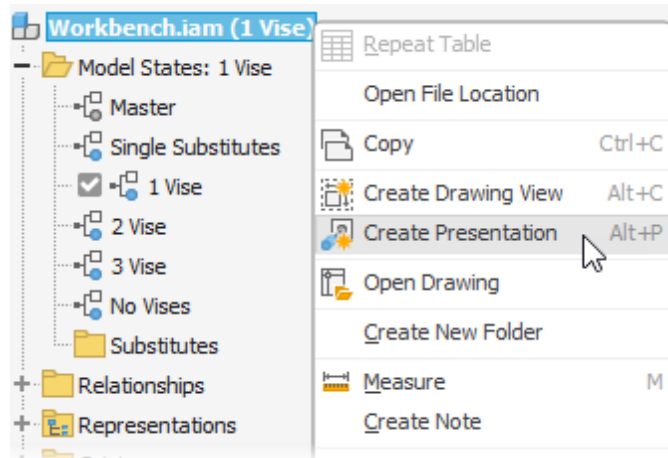

Figure 10
- With the model state active in the assembly, right-click on the assembly name in the Model browser and select **Create Presentation**, as shown in Figure 10. In the Presentation Template dialog box, select the required presentation template file and click **OK**. A presentation scene of the selected model state is immediately created.